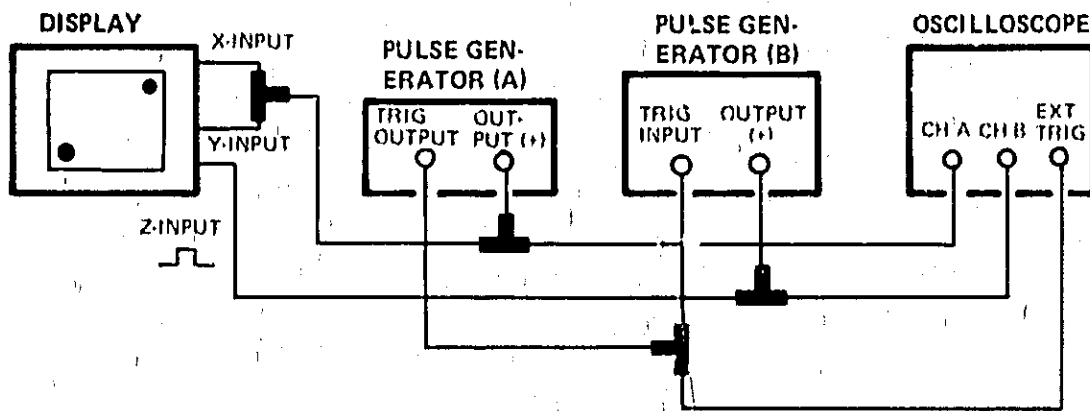

Figure 4-5. Diagonal Settling Time Test Setup
- Pulse Generators (2) ..... HP 8013B
- a. Connect equipment as shown in figure 4-5.
- b. Set pulse generator (A) as follows:
- c. Adjust pulse generator (A) AMPLITUDE to position two spots on diagonal corners of 1340A CRT. Position and Gain controls of 1340A may require adjustments for proper positioning of the spots.
- d. Set pulse generator (B) as follows: